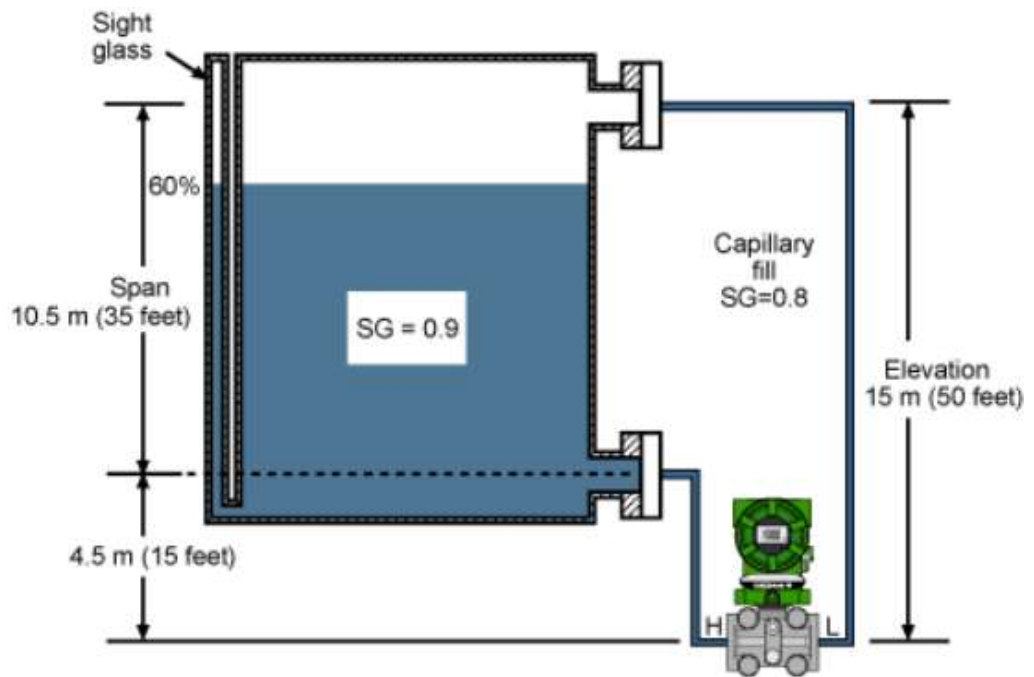

Figure 1: differential pressure (dp cell) transmitter
- b) When installing a hydrostatic level transmitter on a working process, the lower and upper range values (LRV and URV) for the transmitter must be determined to properly register 0% at the LRV liquid level and 100% at the URV liquid level. Calculate the calibrated range of differential pressure (dp cell) transmitter in Figure 1 if it uses the fill fluid in Table 1.